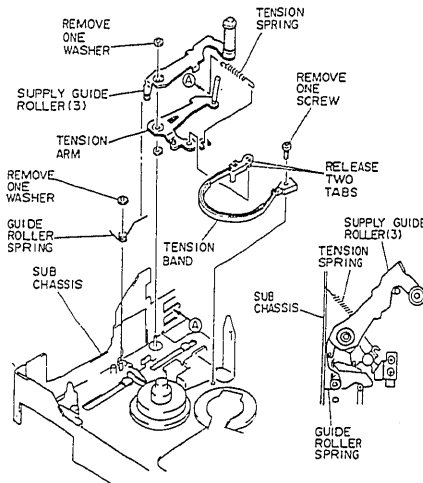

Fig. 2-43
- 1) Remove one (1) screw holding the tension band. (See Fig. 2-43)
- 3) Remove one (1) washer holding the tension arm and supply guide roller (3)
- 4) Pull out the tension arm, supply guide roller (3) and tension band from the sub chassis.
- 5) Release (2) tabs and remove the tension band from the tension arm.
- 6) Remove one (1) washer holding the guide roller spring.